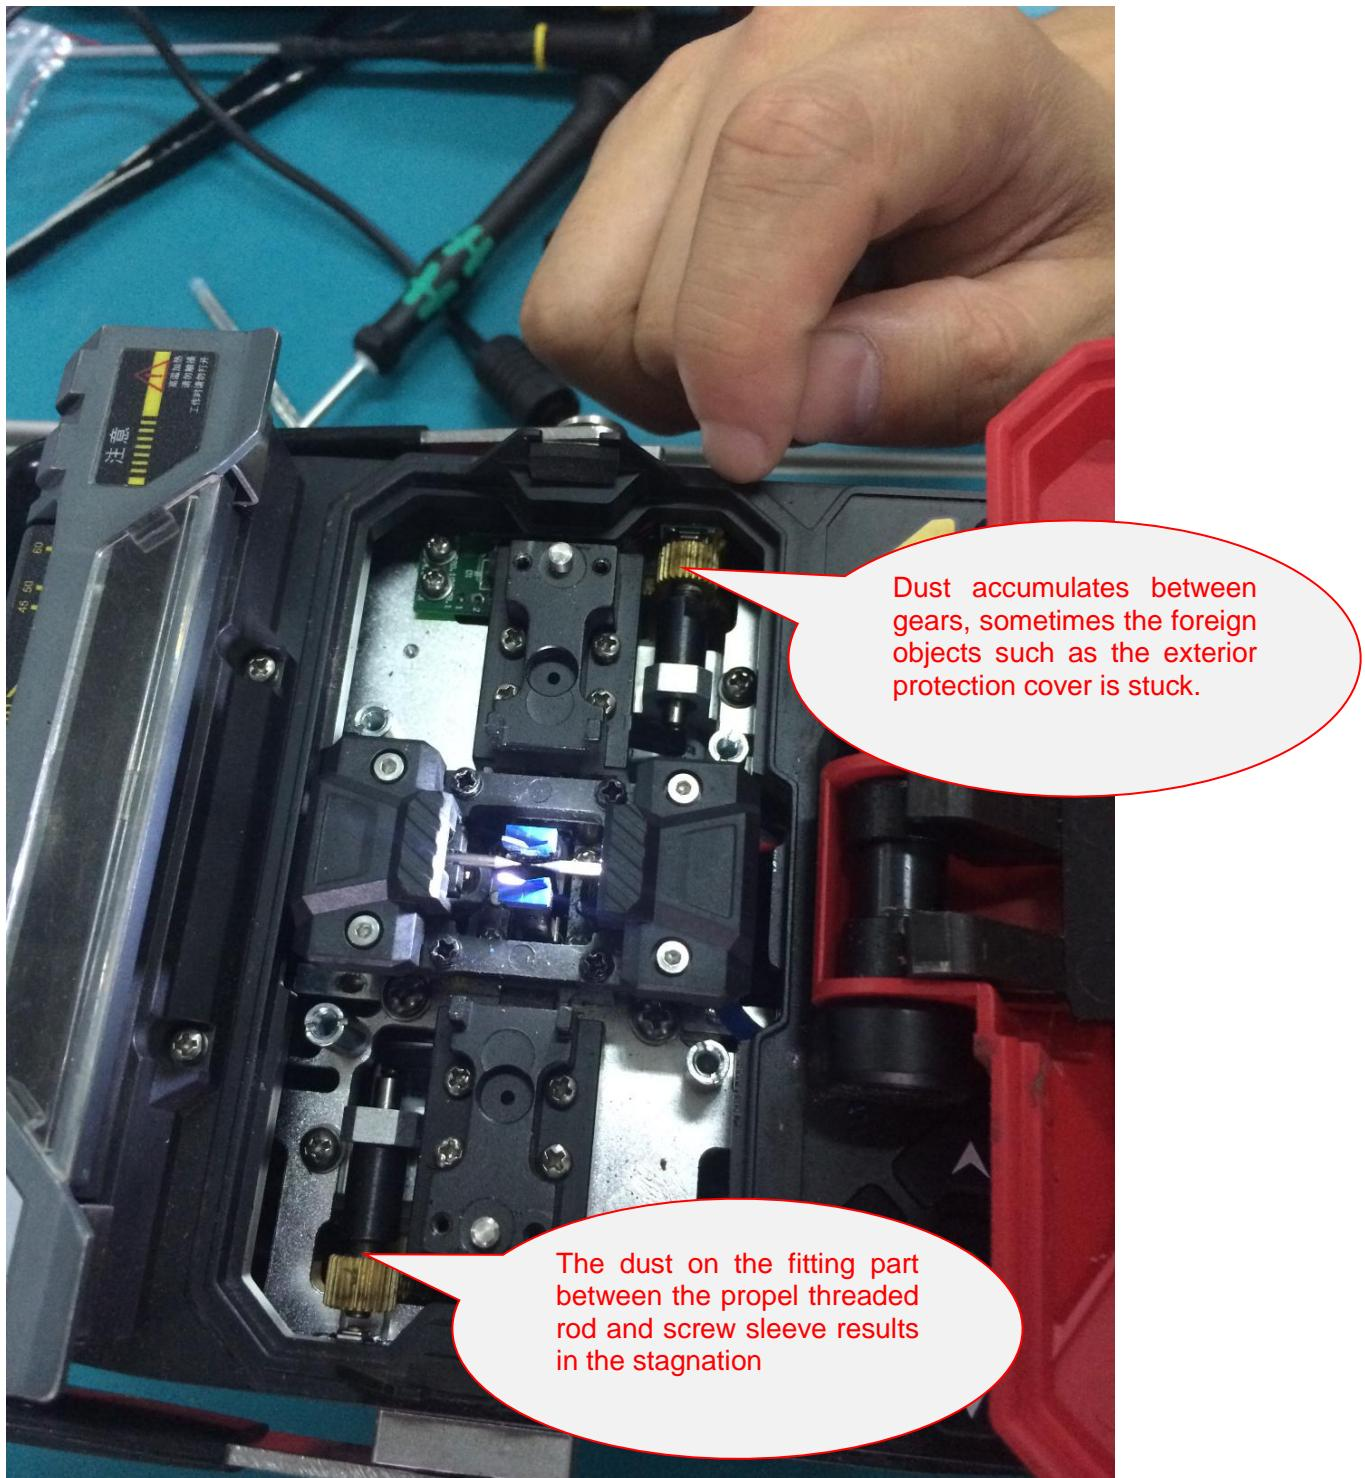

Fig.5 Cleaning of foreign objects between motor gears
- ① Open the windshield and remove the fixture and pressure plate.
- ② As shown in Fig.5, there are foreign objects between the gears of propel motor. Clean the foreign objects.
- ③ Start the instrument, and when the propel motor is stuck, manually assist the motor to smoothly pass the jam and enable the instrument to normally start.
- ④ Press the "Menu" button to enter the menu page, select "maintenance" ---> "motor" ---> "motor adjustment", and select the left or right motor to be cleaned via the "Enter" button.
- ⑤ Operate the "Left" and "Right" buttons to locate the different parts of micrometer head of propel motor for the convenient cleaning.
- ⑥ Gradually clean the foreign objects in various parts of micrometer head with the cotton stained with alcohol held by tweezer.